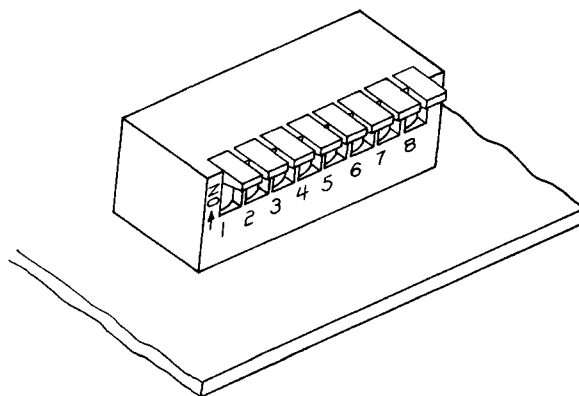

Fig. 3 — Option Switches on Control Card of KL-30.
AREA 2, AREA 3, and AREA 4. Note that two wires are necessary; the outputs are transformer coupled. See Fig. 3.
3.04 Connect wires from background music source to terminals labeled BGM. See Fig. 3.